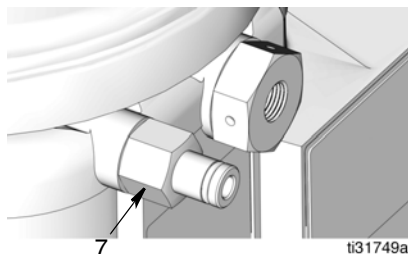

FIG. 9
7. Use a wrench to loosen pump element (e) and completely remove pump element from pump housing as shown in FIG. 9.
Make sure spring with piston (g) is removed with the pump element (FIG. 9).
1. Examine new pump element (11). Make sure the o-ring (12) and spring with piston (11a), are installed (FIG. 9).
5. Install vent valve alignment bolt (7) in the pump. Torque bolt to 25 in.-lbs (2.82 N•m) (FIG. 9).